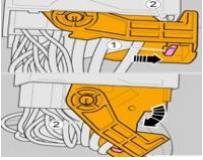

Figure 2
- Referring to Figure 2 - Press the catch (1) in the direction of the arrow, at the same time rotate the harness plug retainer (2) outwards as shown to allow the harness plug to be disconnected